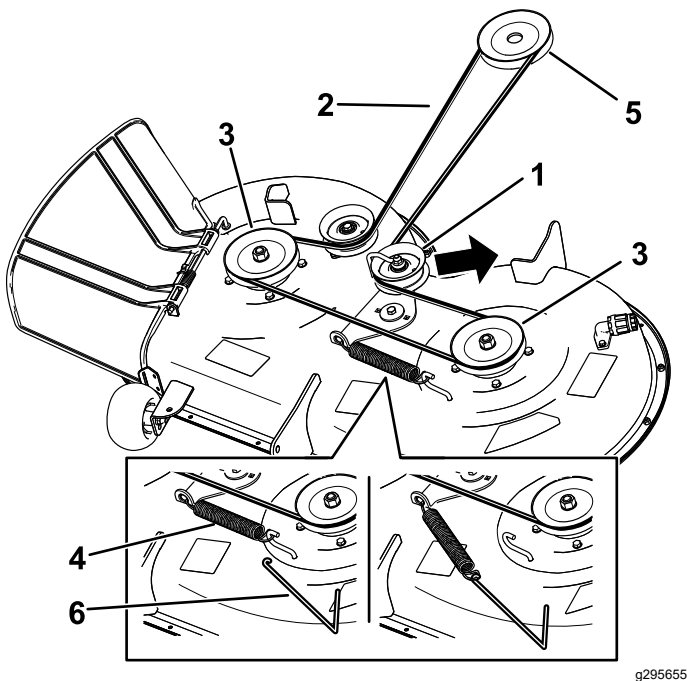

Figure 57
7. Using a spring-removal tool (Toro Part No. 92-5771), remove the idler spring from the deck hook to remove tension on the idler pulley, and roll the belt off the pulleys (Figure 57).
8. Route the new belt around the engine pulley and mower pulleys (Figure 57).
9. Using a spring-removal tool (Toro Part No. 92-5771), install the idler spring over the deck hook and place tension on the idler pulley and the mower belt (Figure 57).